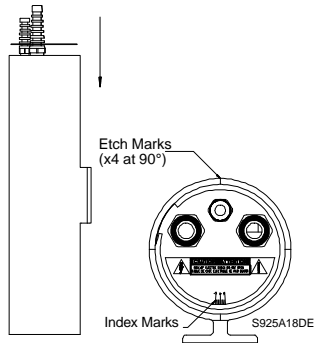

Figure 25: Inserting Cradle Assembly
1. Position the housing vertically and replace the cradle assembly by applying pressure onto the rear cap until the end of the cradle is securely closed. **Make sure the index marks** are aligned with the etch mark on the housing. See **Figure 25**.